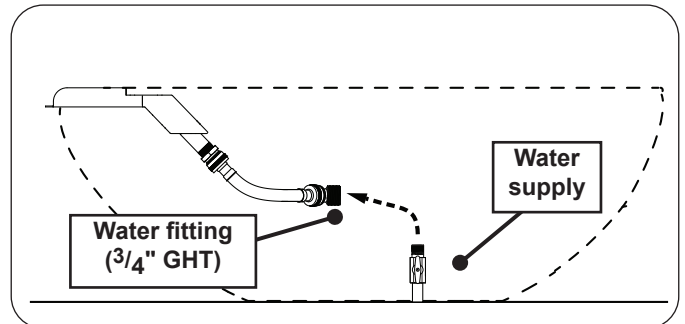

Fig. 29-2 Connect water supply (if applicable)
2. Plumb the water supply to the  $\frac{3}{4}$ " GHT fitting (see Fig. 29-2).